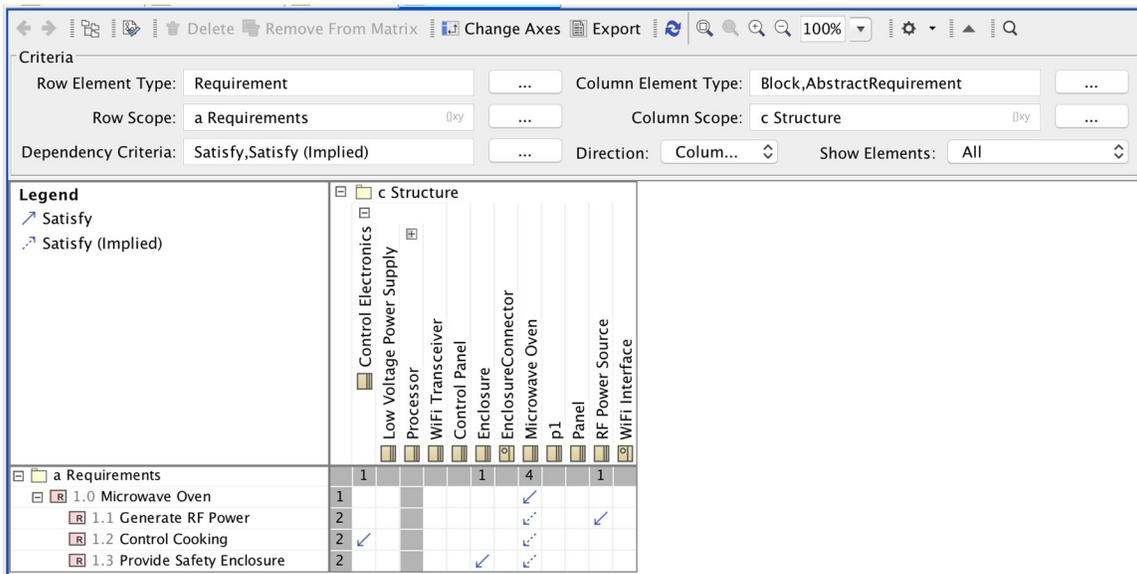

Figure 22. Satisfy Requirements Matrix
- F. Cameo also provides a variety of Matrices that show associations between groups of model Elements. A very useful example is a Satisfy Matrix for Requirements. Fig. 22 shows this for the microwave oven. The steps to create the Matrix are: